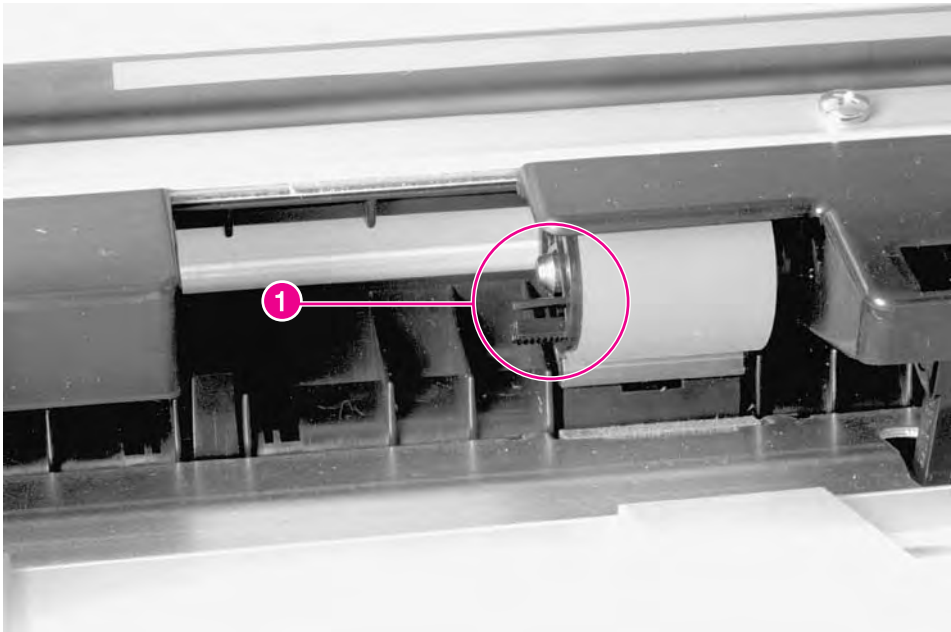

Figure 6-54 Tray 1 Feed Roller
- 2 Pinch the retainer tabs together (figure 6-54, callout 1), and slide the roller to the left off of the shaft.